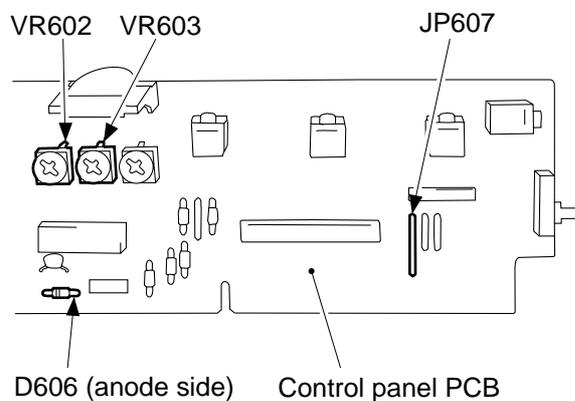

Figure 2-5B
- 10) Turn VR603 (AE gain adjustment) until the voltage between the anode side of the diode (D606; it) and JP607 (GND) is 1.8 ± 0.1 V; see Figure 2-5B.